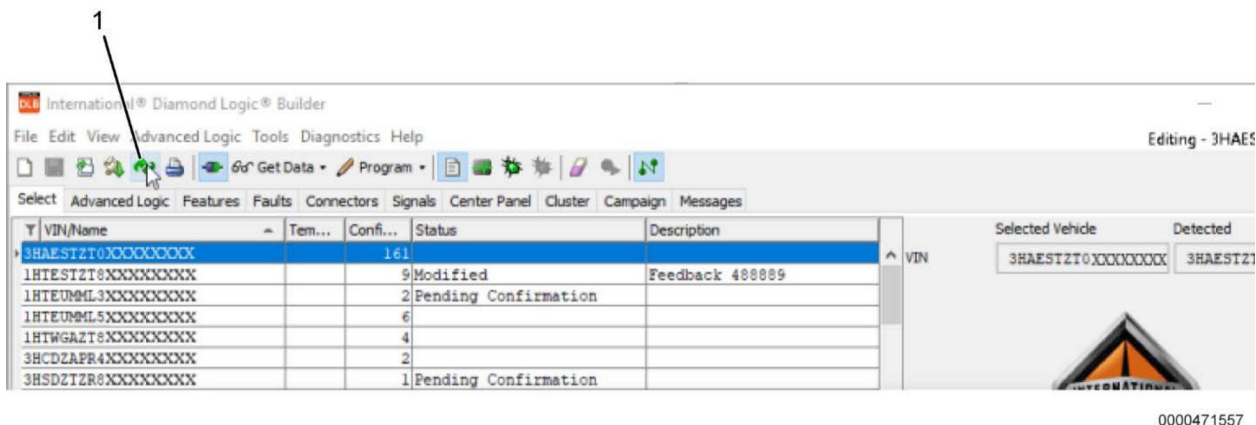

Figure 1. Update All Icon
10. Click on Update All icon (Figure 1, Item 1) in toolbar. DLB will list latest module versions in Kernel column.